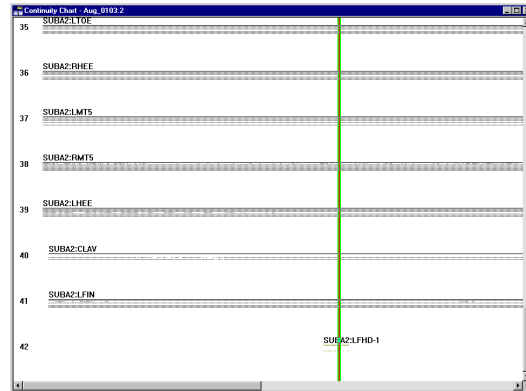

Figure 10: New Continuity Chart
- 4) Select **<Window>/<New continuity Chart>** (*Figure 10*). Scroll down the chart as well as to the right looking for any trajectories with the word Unlabeled.
- d) Scrub the timeline bar until the timeline is crossing the unlabeled trajectory you just selected (*Figure 10*).
- 6) If you still have more than 41 trajectories, these will be the overlap trajectories that were created during joins. Overlap trajectories will have names like RSHO-4, or LFHD-1 (Figure 10). You can leave these in there if you wish. They'll be removed when you continue cleaning in Diva. Otherwise, for the most part they can just be selected and deleted. Note: if you have a particularly long overlap trajectory it might be worth taking a look at to make sure that it is not data that you would like to keep.